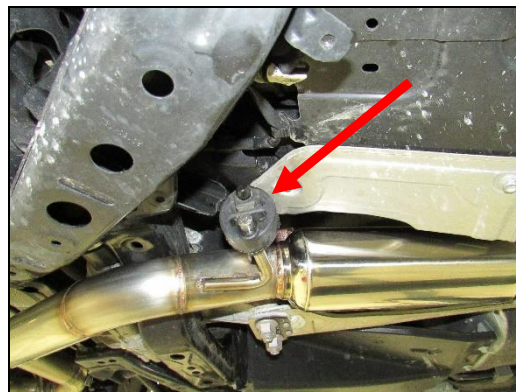

Figure 8
- Install the blackheart resonator pipe on to the OEM exhaust and install the hanger into the rubber isolator on the car (Figure 8).